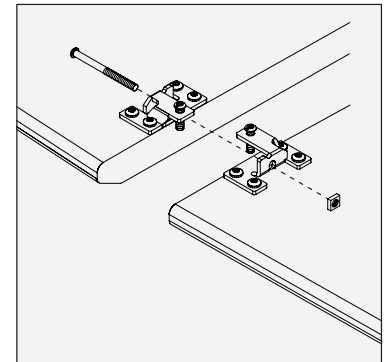

Fig. 18B
- B. Remove the center screw from the Joint Leveler Support to separate the Desktops (Fig. 18B). Proceed to Step 3.